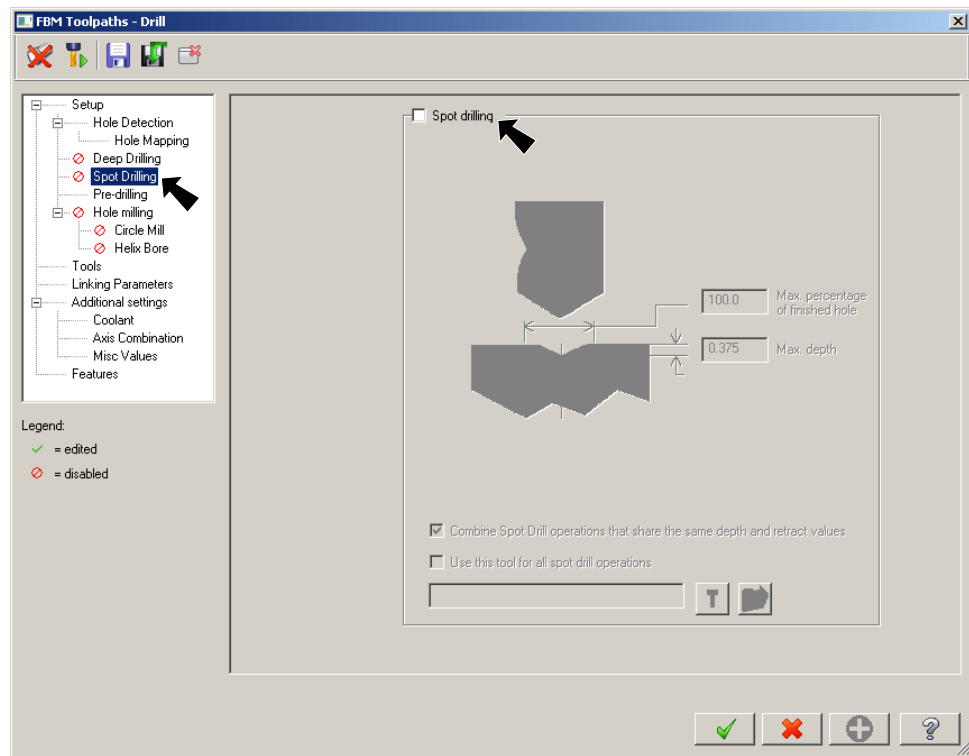

Fig. 86
Step 4. Select **Spot Drilling** from the tree control and uncheck **Spot Drilling** check box, **Fig. 86**.